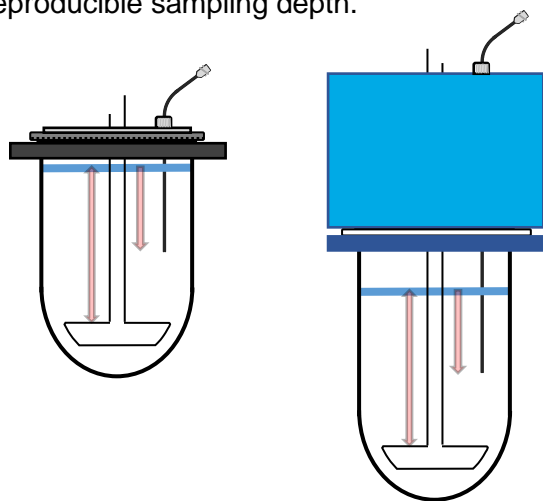

Figure 2 Different height of cannula due to close- and open mount systems.
- The type of system determines the length of the cannula. Cannulas used in close mount systems are longer. Sampling needs to be done from above the head. For example manual cannulas of a through head mount cannula is 7,5" larger then it's open mount counterpart. (see figure 2)